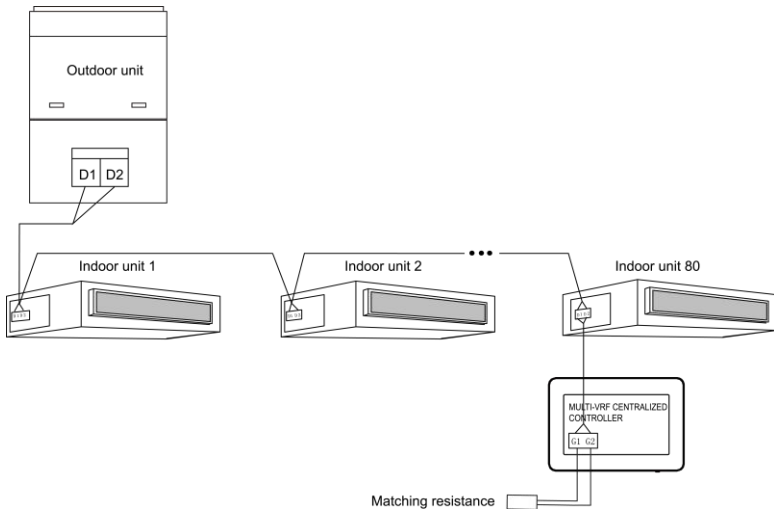

Fig.3.4 Centralized Controller Connected with Indoor Network
b. If the centralized controller is to be connected with the network of indoor units, connect according to fig.3.4. The controller can connect with any one indoor unit in series, that is, connect the controller's G1 and G2 ports with the D1 and D2 ports correspondingly with communication cords. When the controller is connected with the terminal unit of indoor network, a matching resistance needs to be added with the communication cords at the G1 and G2 ports.